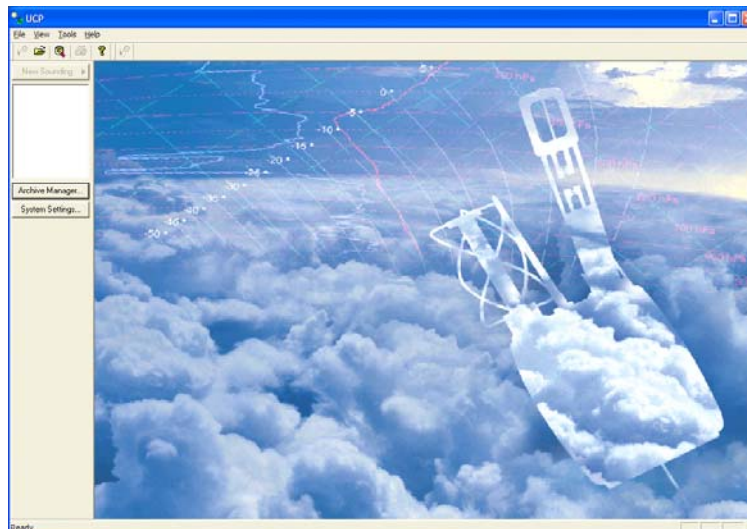

Figure 3: DigiCORA III initial screen
- 1) The screen should look like the following (Figure 3):
- 2) If the screen (Figure 3) is not displayed, double-click on the DigiCORA III icon on the desktop.